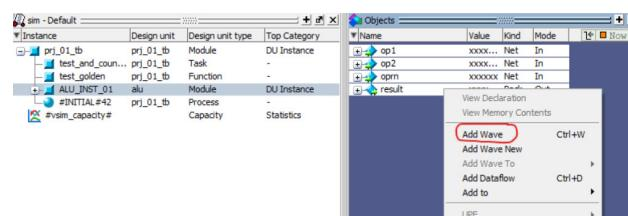

Fig. II.8. Object Window
- Click ‘ALU\_INST\_01’, click ‘View’ on the top left bar, and then ‘Objects’ from the top bar, which will open a window displaying op1,op2,oprn, and result. Select all the options, right-click, and select the ‘Add Wave’ as shown in Figure II.8 below.